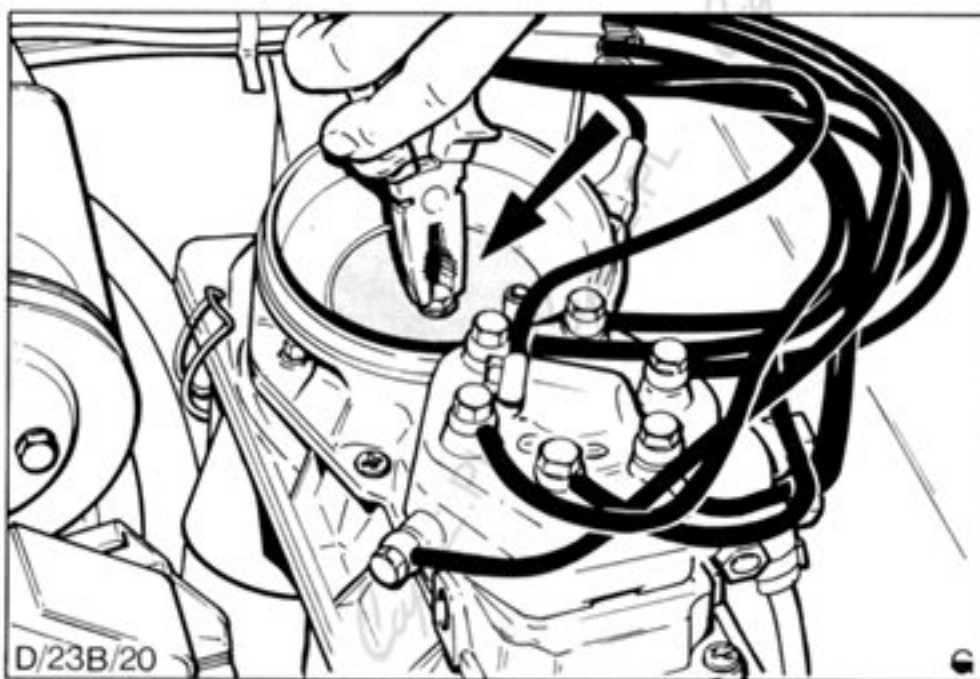

Fig.50. Checking air sensor plate movement.
8. Using a pair of pliers operate sensor plate and plunger assembly checking unit does not bind or stick, Fig.50.